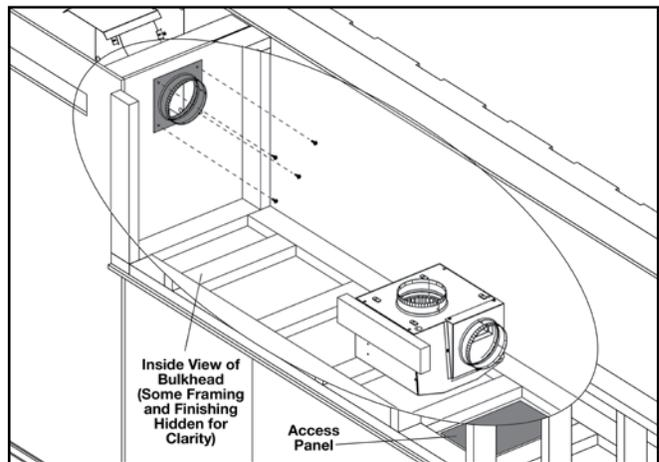

Fig. 2
2. Fasten the wall flashing onto the hot air exhaust assembly using 4 screws (supplied) (**Fig. 2**).
2. Secure the 6" (152mm) collar plate assembly over the hole with the appropriate fasteners (not supplied) (Fig. 2).
14. Install the variable speed switch housing into the blower kit housing by inserting the tabs into the slots (**Fig. 2**). Tighten the nut onto the stud.